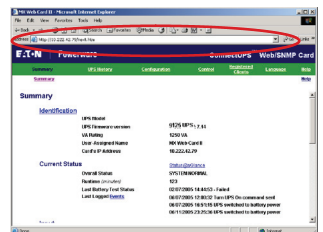

Figure 12. ConnectUPS Card Summary Page
9. Verify network communication by using a Web browser (see Figure 12). Type the IP Address of your card and select **Go**. The ConnectUPS Card summary page opens.